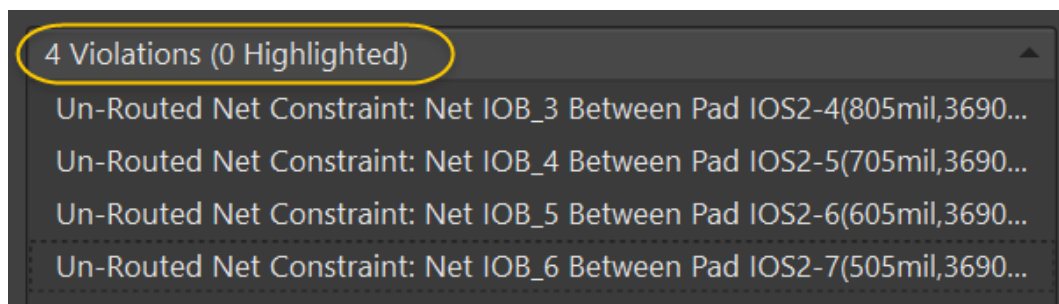

Figure 13. Un-Routed Net violations
29. Four (4) violations will be listed at the bottom of the *PCB Rules and Violations* panel in the *Violations* section as shown in Figure 13.